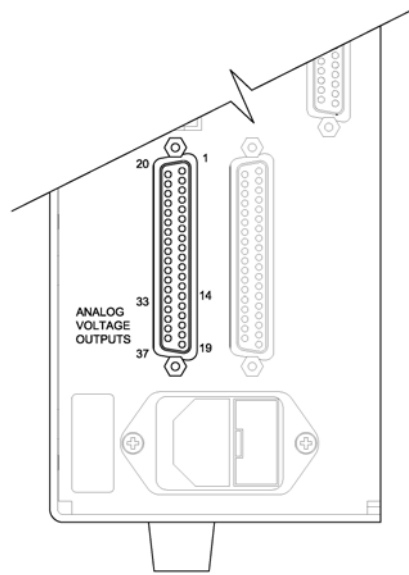

Figure 7-15. Rear Panel Analog Voltage Output Pins
1. Connect a meter to the channel to be tested. Figure 7-15 shows the analog output pins and Table 7-3 identifies the associated channels.
1. Connect a meter to the channel to be adjusted. Figure 7-15 shows the analog output pins and Table 7-3 identifies the associated channels.